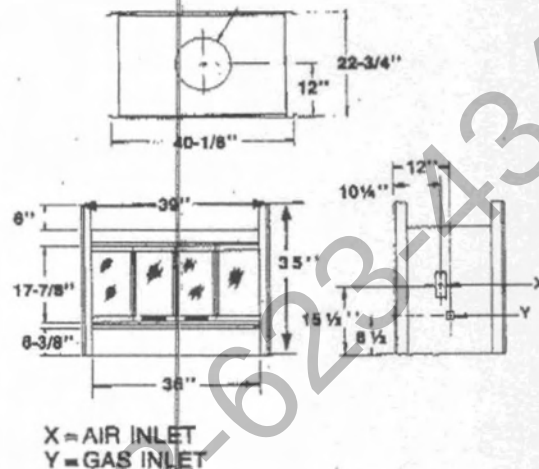

FIGURE 3 — FIREPLACE DIMENSIONS
- A location that requires cutting the least number of joists, roof rafters, and floor joists will reduce costs and make installation easier. This may mean moving only one or two inches from the selected ideal location. Any location selected must allow adequate room to accommodate the fireplace and framing dimensions shown in Figures 3 & 4.